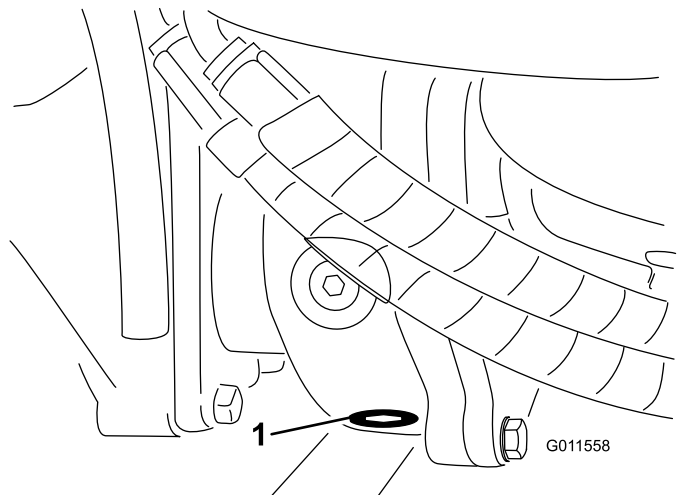

Figure 108
5. Clean the area around the drain plug at the bottom of the gear box (Figure 108).